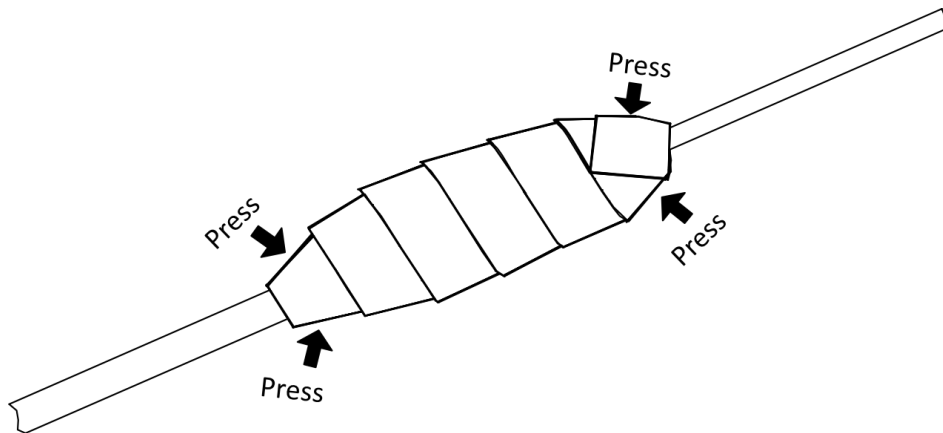

Figure 2-16 Compaction Waterproof Tape
Step 4 Press the waterproof tape on both sides of the terminal to achieve insulation and sealing, as shown in Figure 2-16.